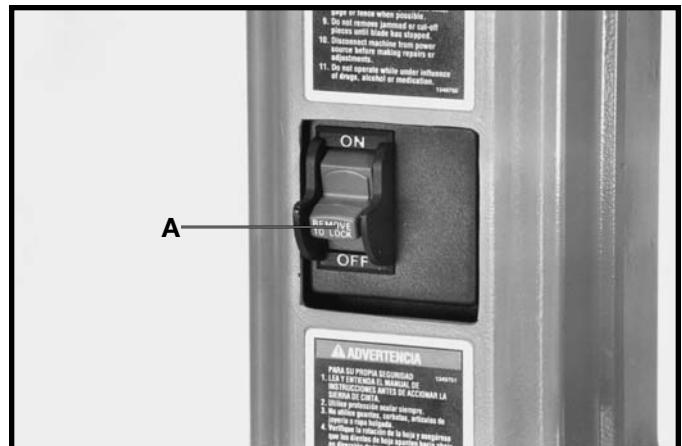

Fig. 17
The switch (A) Fig. 17, is located on the front side of the band saw. To turn the saw "ON" move the switch (A) to the up position. To turn the saw "OFF" move the switch (A) to the down position.